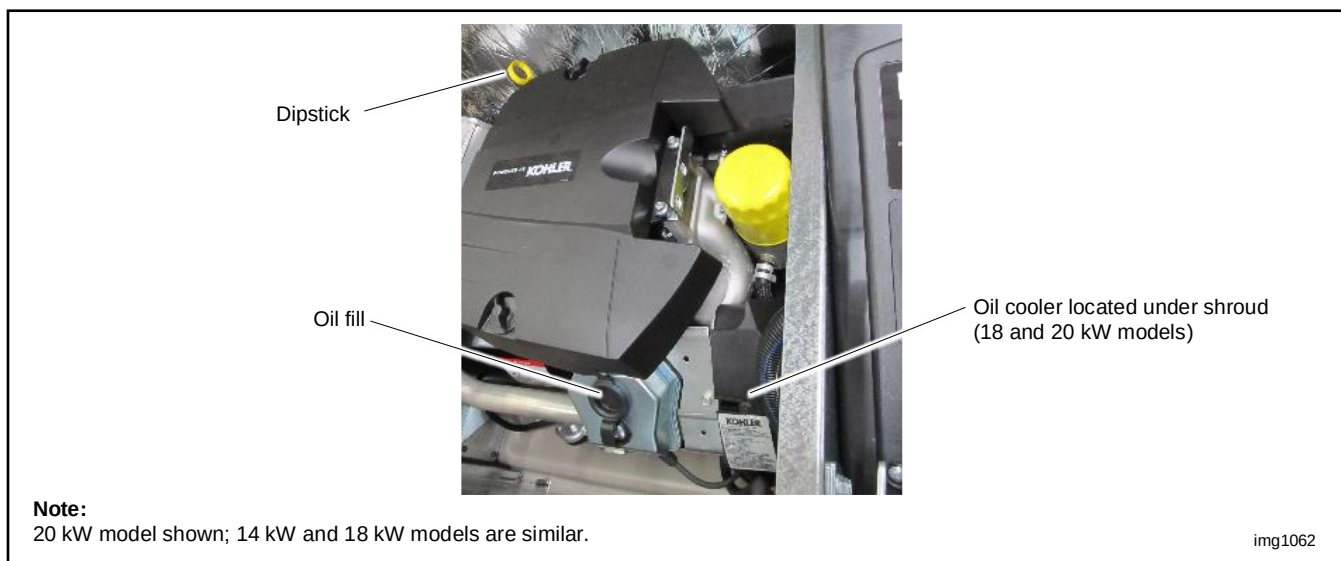

Figure 56 Oil Fill Components
- Add oil through the oil fill port; see Figure 56.